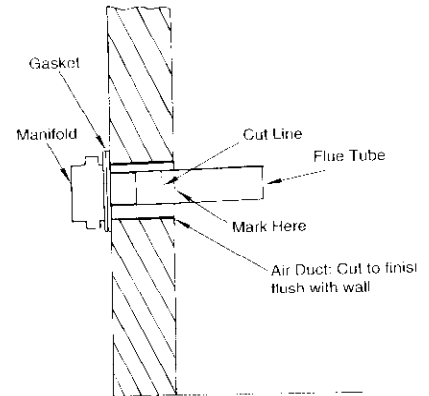

Figure 4
- 7.5 Fit the gasket to the manifold as shown in Fig 4, then replace the manifold as in 7.3 and secure with the three screws.
- 7.12 Mark the position of the outside wall surface onto the tube (Fig. 4).